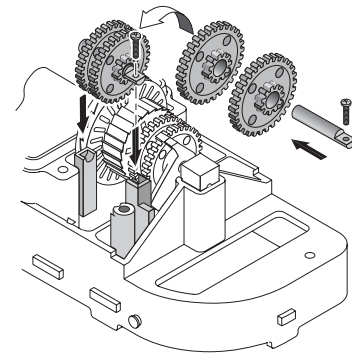

Figure 30
4. Reinstall the short gear shaft, set screw and two gears (See Figure 30); the small pinion gears and the shaft set screw go on the side toward the end of the cleaner – away from the oscillator box. Make sure that the gears engage the gears on the long gear shaft.